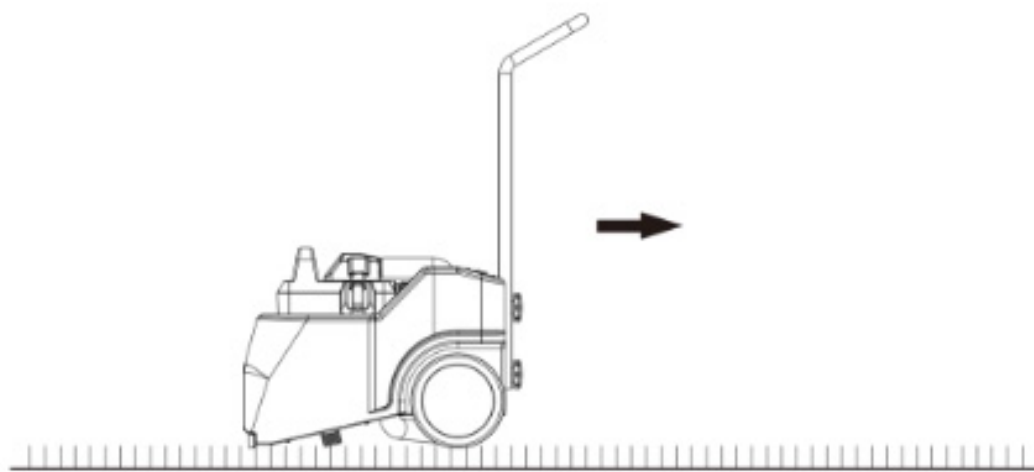

Figure 5
3. Hold the handle and pull the machine backward during operation. You will see the extracted water flowing into the wastewater tank through the upper cover. (See Figure 5)